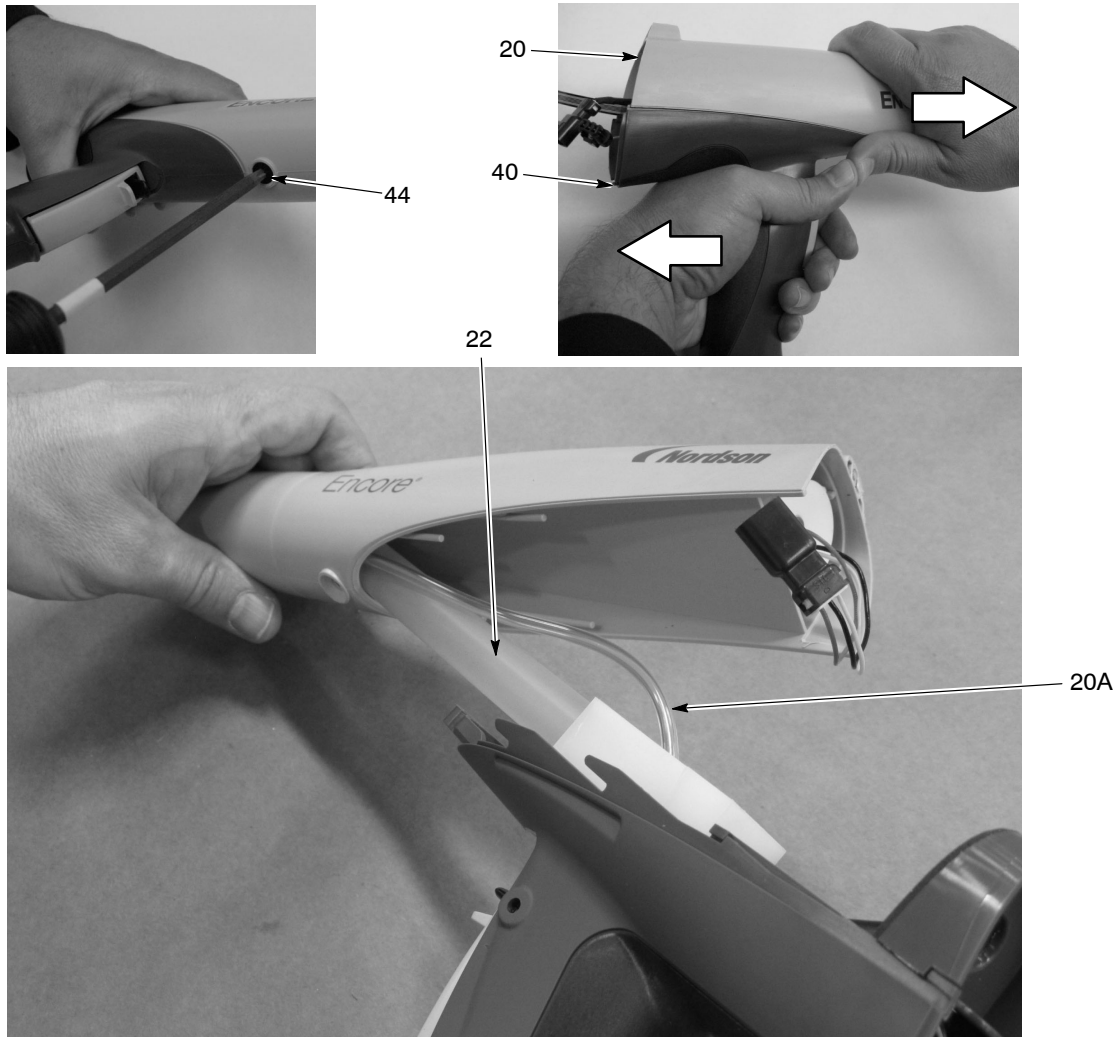

Figure 6-2 Removing the Gun Body from the Handle
4. See Figure 6-2. Remove the black nylon screw (44) from the gun body.
5. Grasp the handle (40) in one hand and the gun body (20) in the other. Press the thumbs of each hand together while pulling in opposite directions to separate the gun body from the handle.